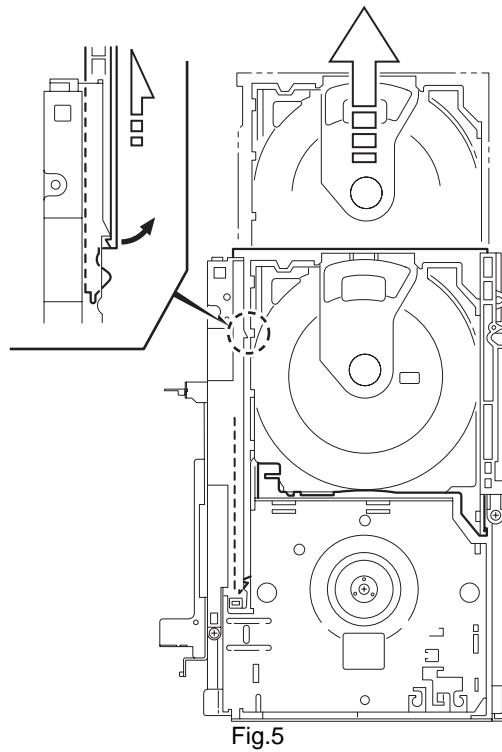

Fig.5
3.1.4 Removing the servo control board (See Figure 5)